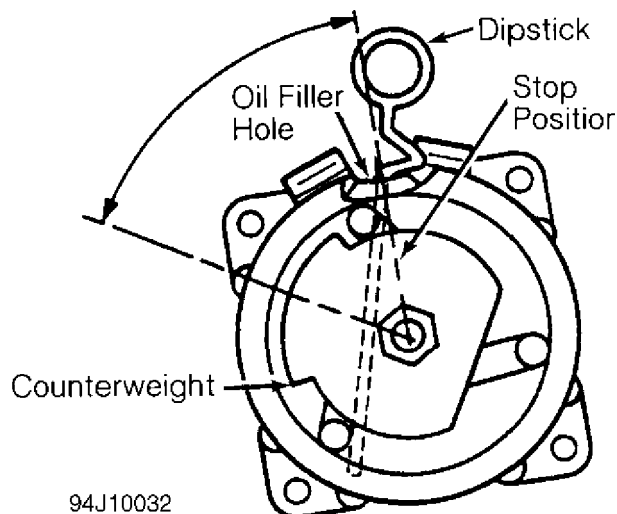

Fig. 1: Checking Jaguar XJS Compressor Oil Level (Sanden 7-Cylinder)
2) Determine angle at which compressor is mounted. Insert compressor dipstick diagonally until stop on dipstick contacts filler plug surface. See Fig. 1. Remove dipstick and note oil fill level. Each increment on dipstick represents one ounce of oil.